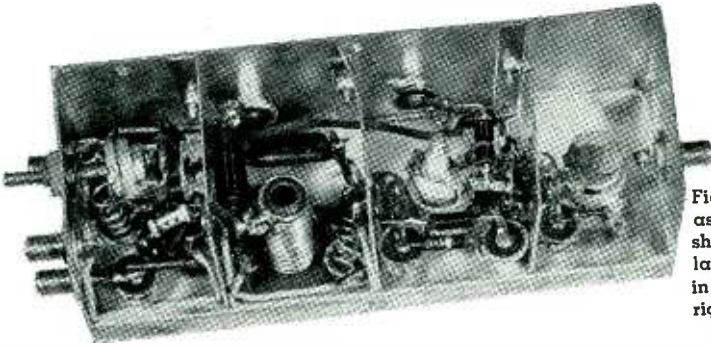

Fig. 4: Underside of assembled chassis showing component layout. Tuners are in two r-f stages at right and local oscillator at left.
The rotator frame is constructed of 3 x 1 1/2 x 1/4 in. channel iron, cut at shown and welded at a local machine shop. The strap iron anchor support (bridging the top of the parabola) helps strengthen the frame assembly and provides a means of securing the top of the rotator frame. As can be seen in the mechanical drawing (Fig. 4), a bushing and anchor flange at the top center of the support allow the entire rotator assembly to rotate freely.
The bottom of the channel iron frame is welded to a 3/8" steel plate, which supports the horizontal driving motor, the selsyn gear box assembly, and the main drive bearings. The cable terminal fittings and relays also are mounted on this plate. The two base supports (items 11 and 15 in Fig. 4) are 1" x 1/4" strap iron, welded to the channel frame to provide extra strength. The rotator base is an ordinary pipe flange with inside diameter to fit the main drive shaft. It can be of any size, shape, or material so long as it is rugged enough to bear the combined weight of the rotator assembly, microwave receiver and parabola. The portion of the channel iron frame extending from the bottom right half of the rotator frame to the horizontal motor is completely enclosed to form a weatherproof housing for the AC
Fig. 3: (left) Circuit of control and selsyn indicating circuits, section below broken line is control panel wiring. Fig. 4: (right) Mechanical construction details of the rotator and antenna mounting cradle. B and C referred to in text are selsyn transmitters
The chassis was laid out with 1/32-inch tolerances between most component parts in order to minimize lead length and stray capacitance. The stray capacitance was also kept to a minimum by mounting the coils one-half inch off the chassis. This necessitated sub-mounting the tube sockets with respect to the chassis in order to maintain minimum lead length. The shields were centered over the tube sockets so that feedback could be kept to a minimum. The chassis layout may be seen in Fig. 4.